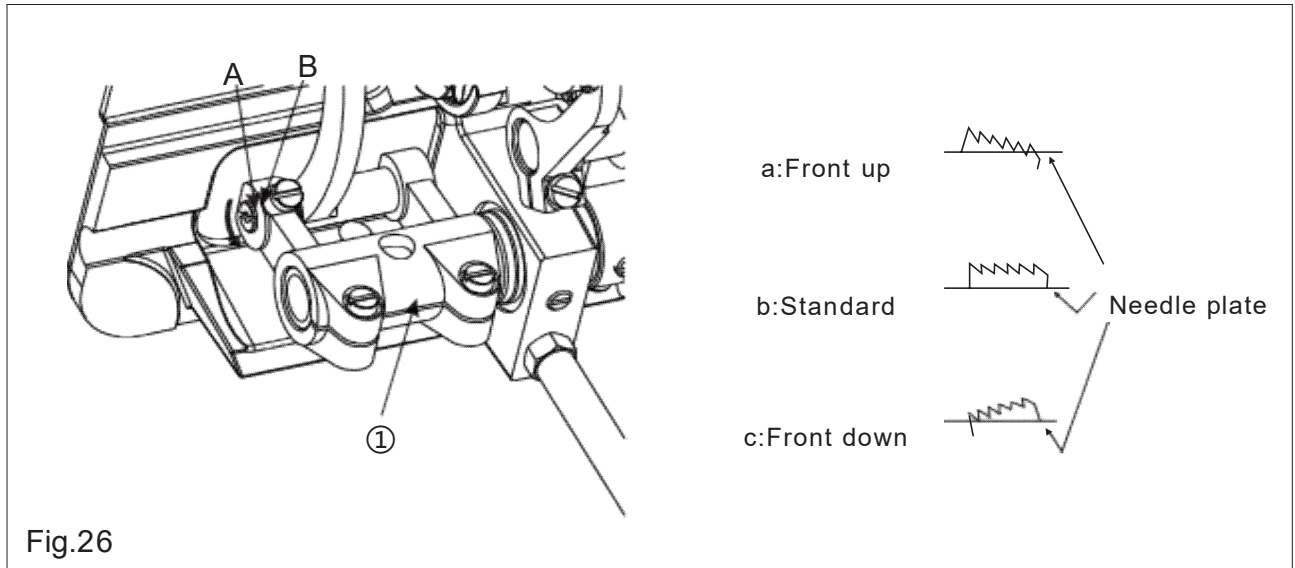

Fig.26
20. To tilt the feed dog (Fig.26)